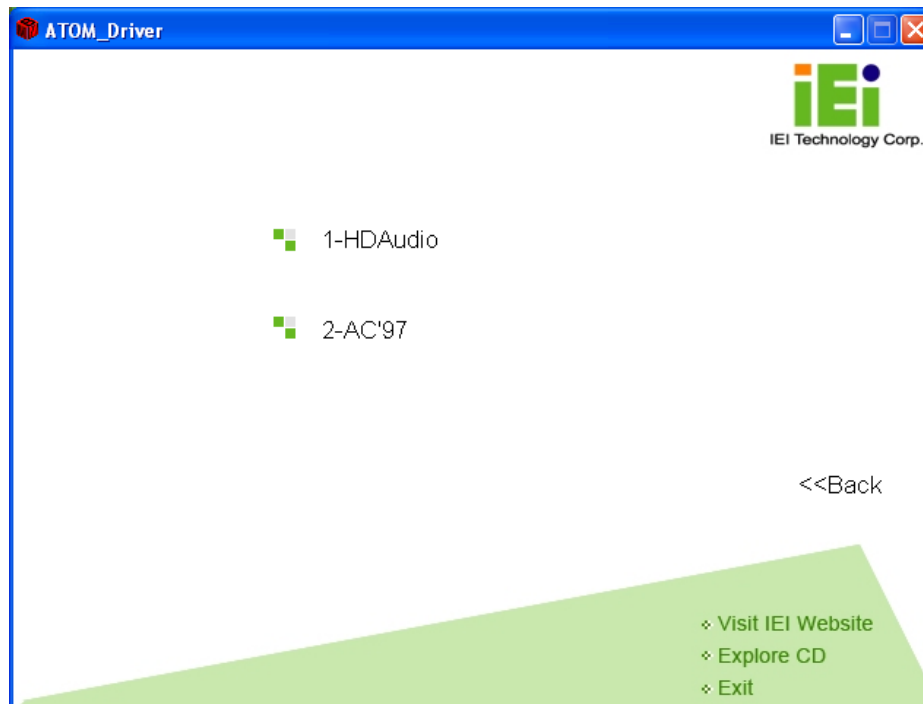

Figure 7-21: Audio Driver Options
Step 3: The screen in **Figure 7-21** appears.
Step 1: Select "1-HDAudio" in **Figure 7-21**.
Step 1: Select "2-AC'97" in **Figure 7-21**